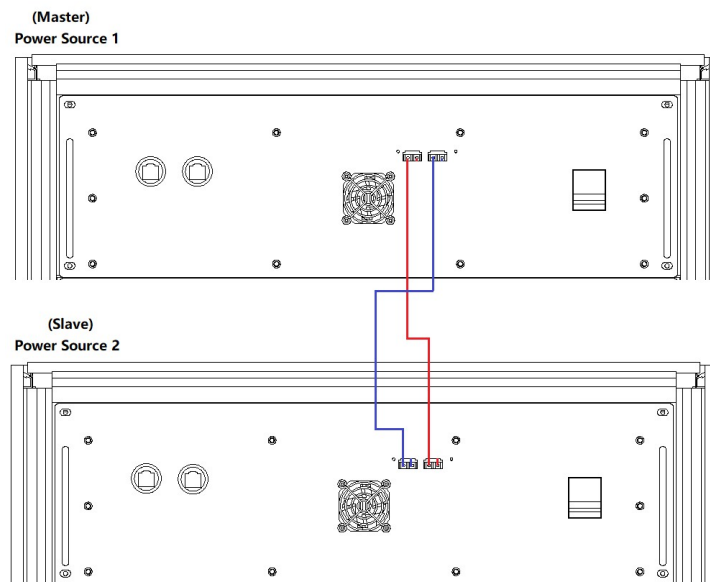

Figure 2-8 Optical fiber cable wiring diagram
Step 2: As shown in Figure 2-8, connect the fiber optic cables of the two equipment.